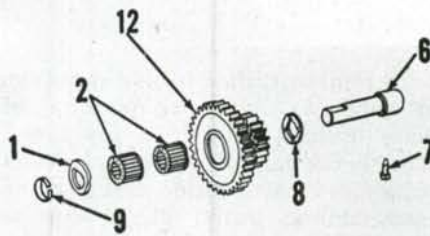

Fig. AC86—Models WD and WD45 power take-off drive intermediate gear and shaft.
Removal of power take-off intermediate drive gear (12—Fig. AC86) requires torque tube removal. Remove intermediate gear shaft retaining set screw (7) (located on outside of torque tube) and bump shaft (6) forward. Remove shaft through hydraulic pump opening in torque tube. Intermediate gear thrust washers (1 & 8) and spacer (9) are removed through opening in lower side of torque tube.